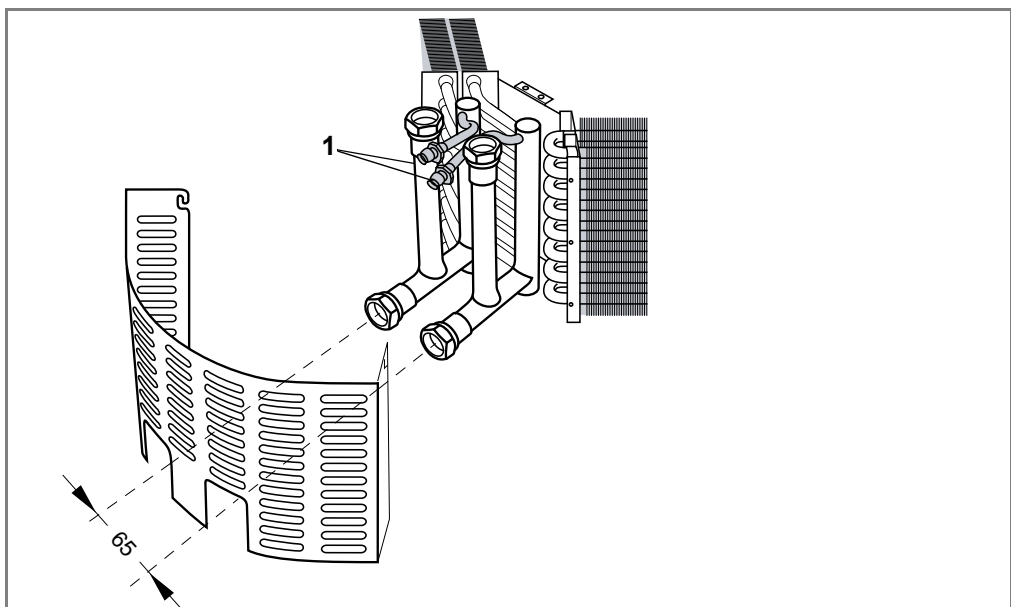

Fig. 7-2: Bleeding the heat exchanger
- Using a bleeding key open the bleed screw (see fig. 7-2).